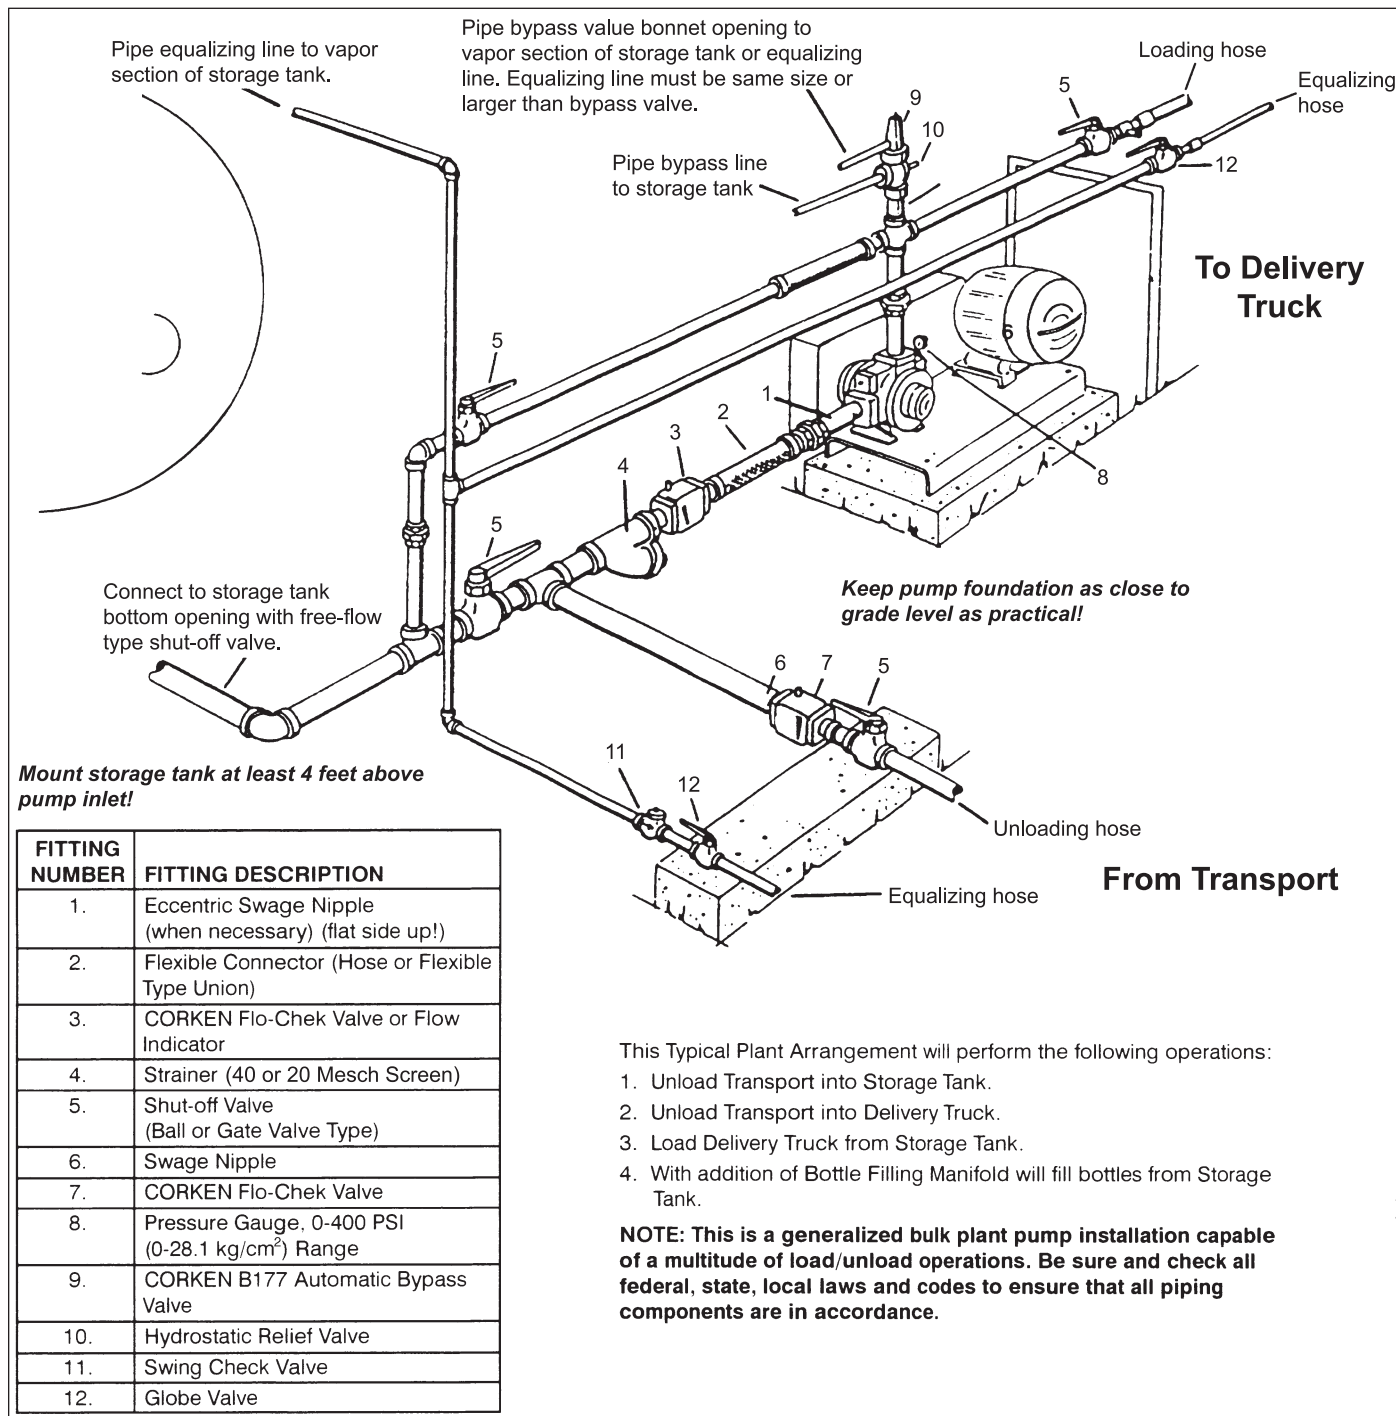

Figure 1.2: Typical Piping Diagram
The installation of the Coro-Vane® pump is simple; however, in order for the pump to deliver optimum performance, the principles discussed in this book should be followed. The piping details in figure 1.2 illustrate methods proved by hundreds of installations. Your own needs may require slight variations, but every effort should be made to follow the recommendations identified in this manual.
No pump can discharge more liquid than it receives, so the pump location and the inlet piping must be given careful attention. If the inlet piping is unable to supply the demand of the pump, you may expect trouble. The inlet sizes shown in figure 1.2 are the smallest piping size you can use with success.
7. The minimum inlet piping sizes shown in figure 1.2 must be observed.
4. The minimum outlet piping sizes shown in figure 1.2 should be observed.
Another way to consider this principle is to remember how it takes two holes in an oil can for oil to be poured smoothly from the can; one for the oil to exit and the other for the air to enter. The piping and hose sizes shown in figure 1.2 are minimum requirements.